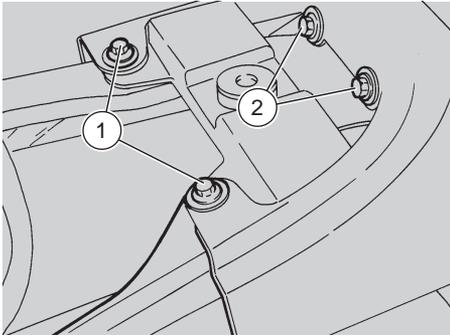

Fig. 59
CHANGING THE REAR LIGHT BULBS (Fig. 59 ÷ 61)
- ◆ Unscrew and remove the four screws (1-2-Fig. 59).